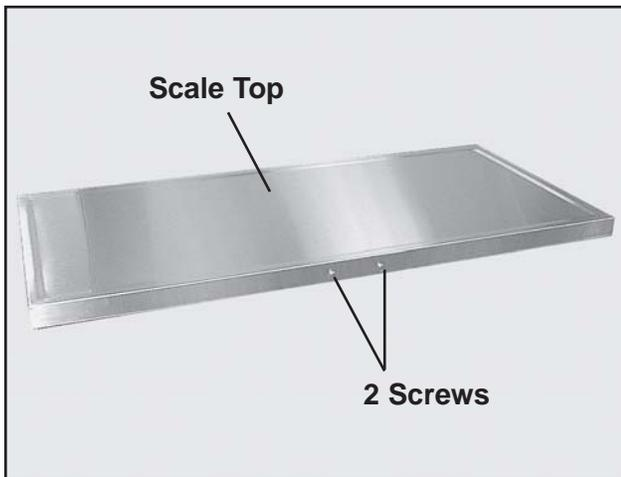
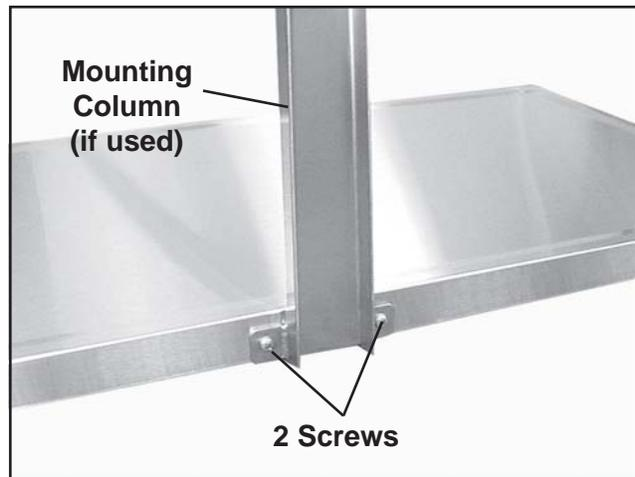

Figure 31. Screws in Scale Platform
Figure 32. Screws in Scale Platform (column-mounted display)
2. With a Phillips screwdriver, remove the two screws in the side of the scale platform (Figure 31). **Note:** If a mounting column is used, remove the column from the side of the platform at this time (Figure 32).